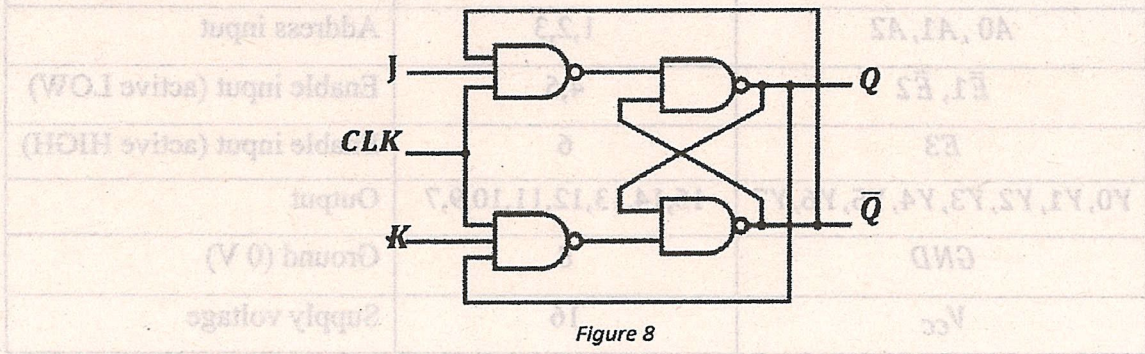

Figure 8
I. Logic circuit diagram of a JK flipflop is shown in Figure 8.